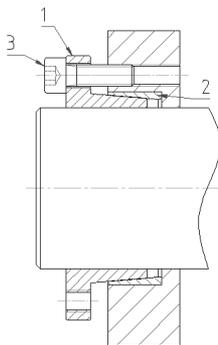

Fig. 1
- Application type A – axially free hub (fig. 1). The hub must be provided with shoulder, and hub's seat for the locking assembly must be as wide as length of outer ring item [2]. Transmissible torque and contact pressures = 1,58 x values on catalog.